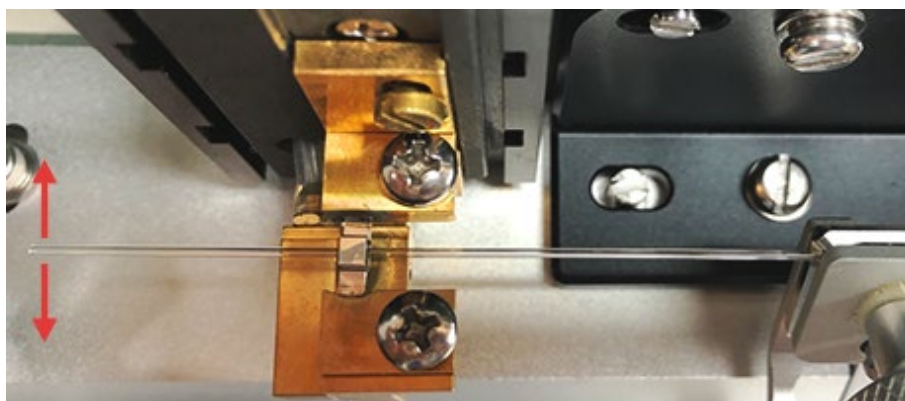

Figure 6-7
8) Slide the glass to the left edge of the filament and extend out as much as possible. Hold the left end of the glass and gently swing it back and forth to finely position the filament centered over air jet opening and around the glass, as shown in Figure 6-7.